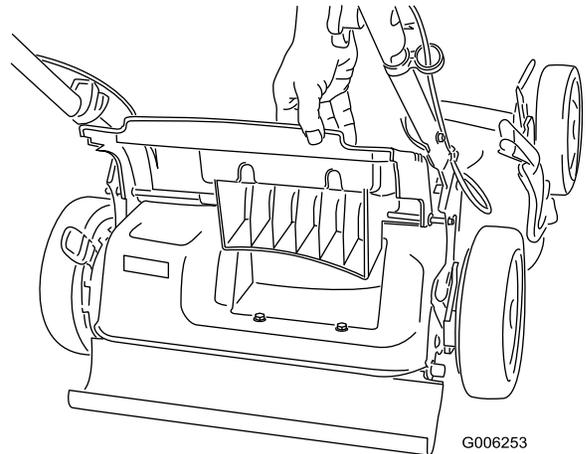

Figure 19
1. Raise and hold up the rear door (Figure 19).